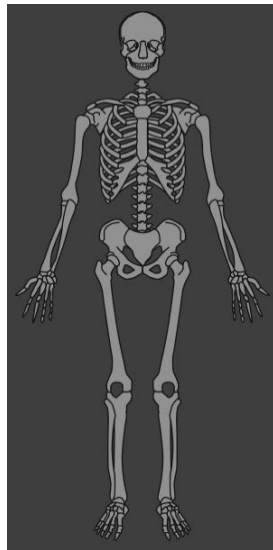

Figure 1 Normal
- Figure1 : Position setting is not done yet.